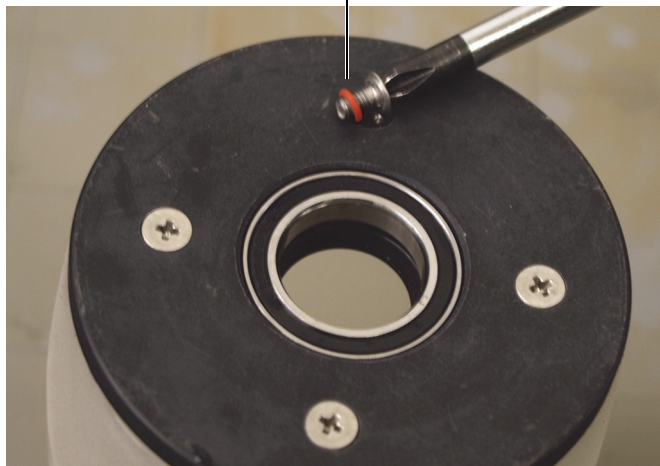

Figure 6-19 Removing the plain flange's external retaining screws
1. Remove the four external retaining screws on the acoustic wheel's plain flange (Figure 6-19 on page 99).